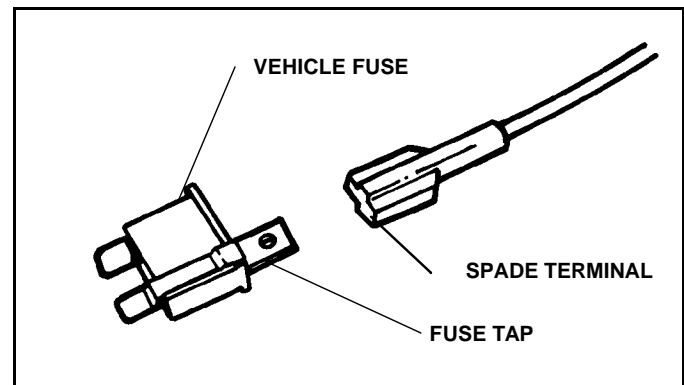

Figure 1-3
11. With the vehicle ignition key in the on position, use a test probe to determine the fused "Dead/OFF" side of the fuse and attach the appropriate Fuse Tap to that side of the fuse. (See Figure 1-3)